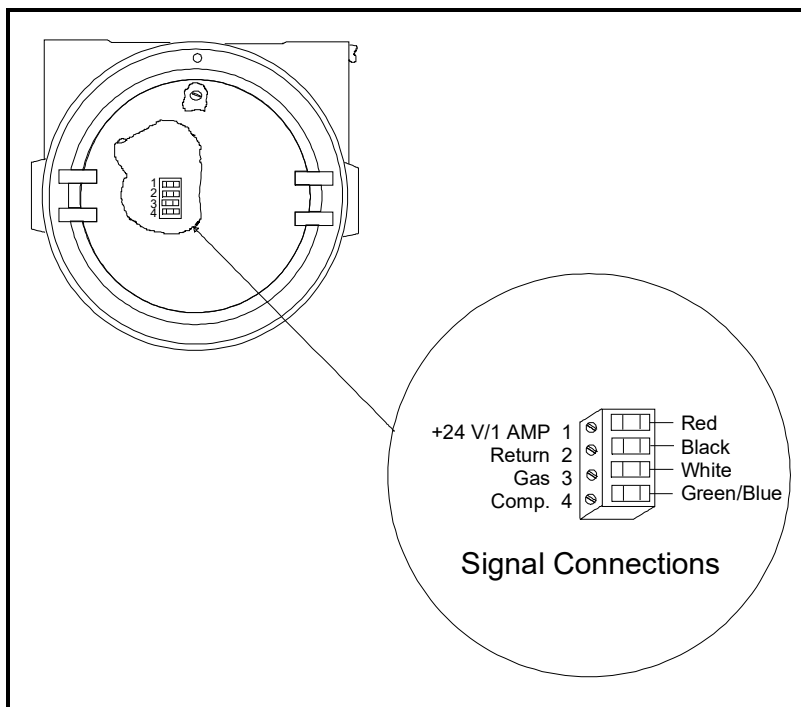

Figure 1: Wiring Connections to TB1 Block
3. Loosen the TB1 side screws and insert the colored wires into the corresponding openings on top of TB1. See Table 2 below for color-coded pin designations, and Figure 1 on page 5 for the TB1 location.